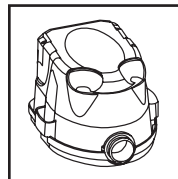

FIGURE 6
9. With cord disconnected from receptacle and tank cover removed, turn tank upside down so that the bottom is facing up with the inlet towards you. **FIGURE 6.**